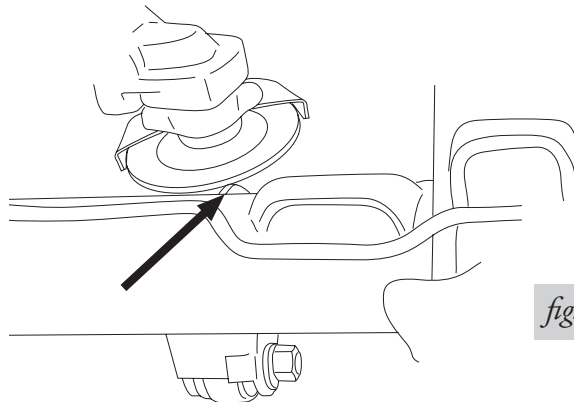

fig. 7
- Due to manufacturing tolerances, the shock mounting bracket may stop the lower bracket from sitting completely flat on the axle housing/jounce bumper pad. This may occur on only one side of the vehicle. In such instances, it will be necessary to use a grinder to trim the shock bracket until it is flat with the top of the axle housing (Fig. 7).